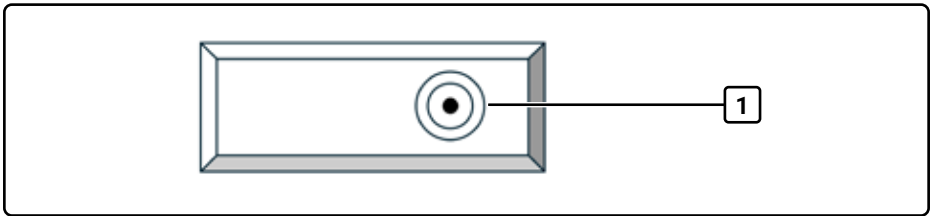

Fig. 5 Plan view of water tank
3. Insert the filter cartridge into the water filter adapter (1, Fig. 5) in the water tank so that it latches in place.